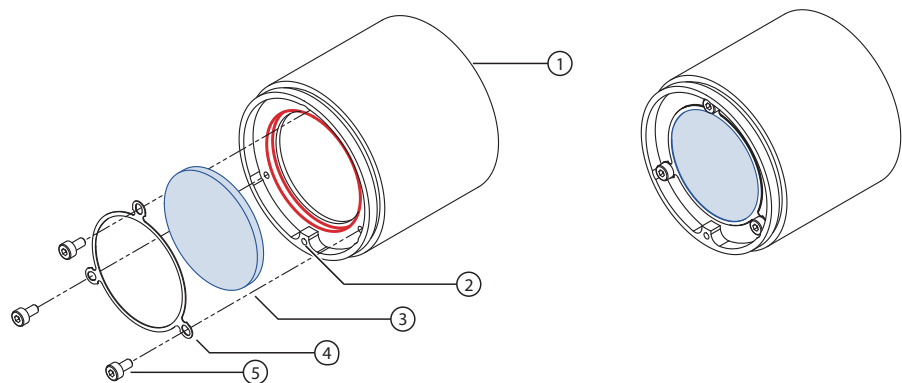

Figure 16: Installing a filter to an M42-Mount adapter
- 3. On the back side of the adapter, loosen the three cylinder bolts (5) of the filter fixing ring (4), using a Torx T6 tool.
- 5. Remove the existing filter glass (3) from the adapter.
- See Figure 16 above (blue = filter, red = filter recess).